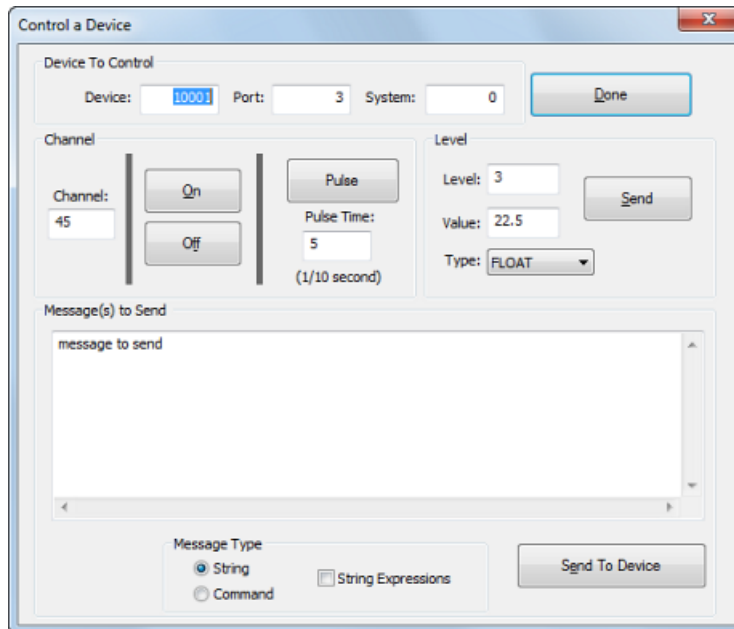

FIG. 64 Control a Device dialog
1. Select **Control a Device** in the **Options > Advanced** sub-menu to open the *Control a Device* dialog (FIG. 64):